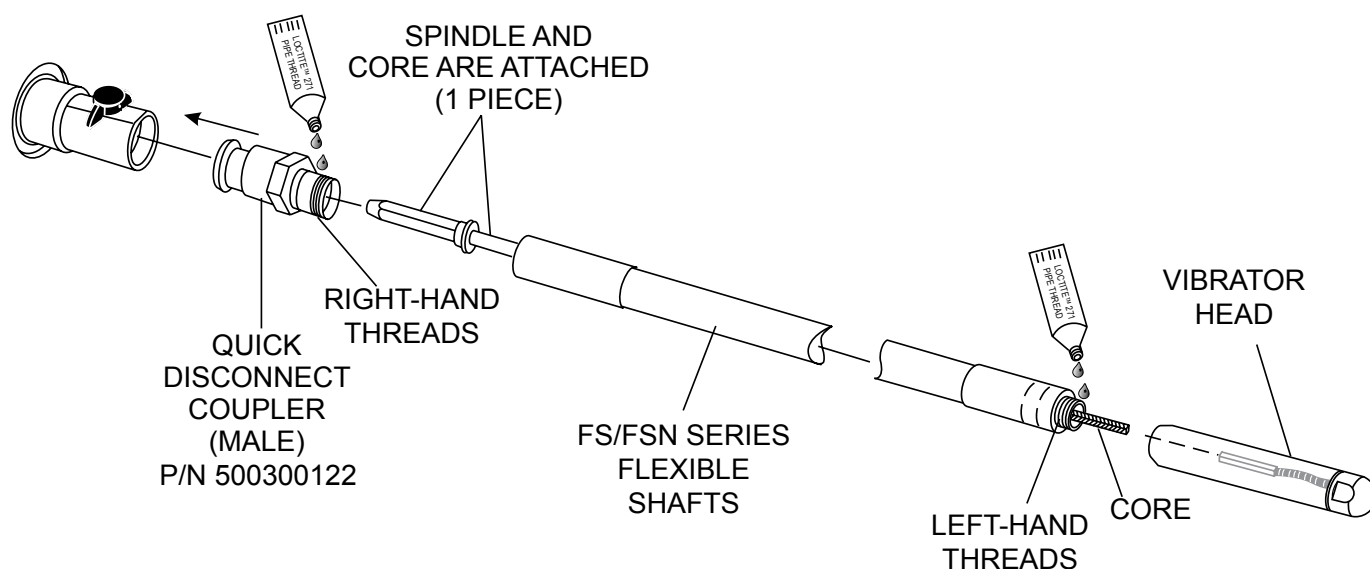

Figure 3. Attaching Vibrator Head to Flexible Shaft
1. Apply a ring of anaerobic sealant (Loctite™ No. 271) to flexshaft threads as shown in Figure 3.
2. Insert coupler into flexshaft as shown in Figure 3.
3. Attach vibrator head onto flexshaft as shown in Figure 3.